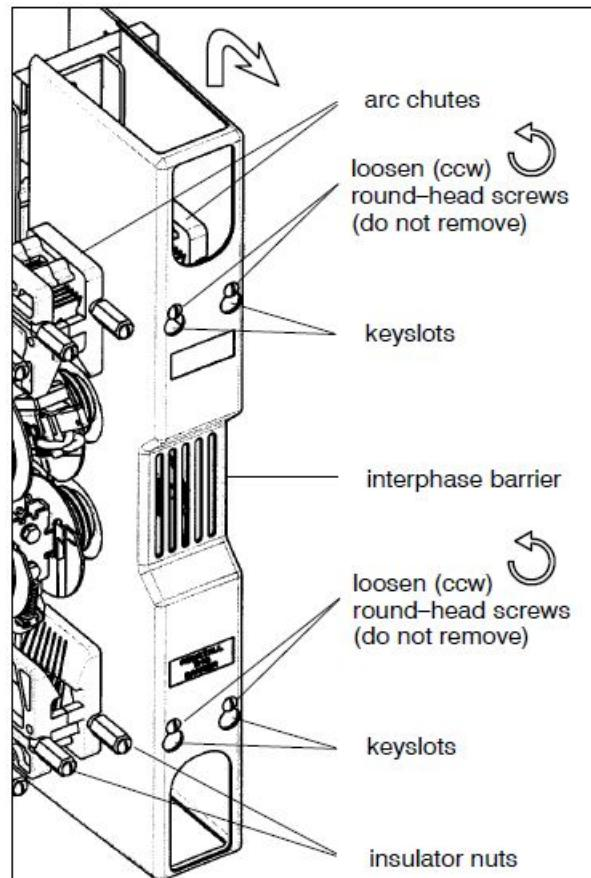

Figure 20. Interphase barrier removal
- Remove the interphase barriers** (Figure 20).
Use a 5/8" nutdriver to remove (ccw) two long insulator nuts. Then pull the arc chute outward (off the long threaded rods). See Figure 20.
Slide the arc chute (arc splitters toward the contacts and recess for nuts outward) between the two long threaded rods. Reinstall the two long insulator nuts (round shoulder in) and use a 5/8" nutdriver to GENTLY tighten (cw) until snug. Do not overtighten these nuts. See Figure 20.
Install the barrier over the arc chutes and slide it up until the four round-head screws align in the four keyholes in the barrier. Then slide the barrier down. Use a blade screwdriver to tighten (cw) the four round-head screws to secure the barrier to the arc chute insulator nuts. See Figure 20.